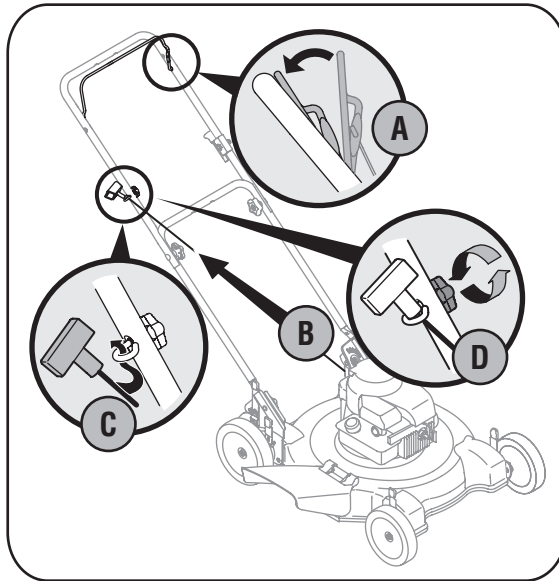

Figure 5
5. Rope guide Setup as follows, see Figure 5: